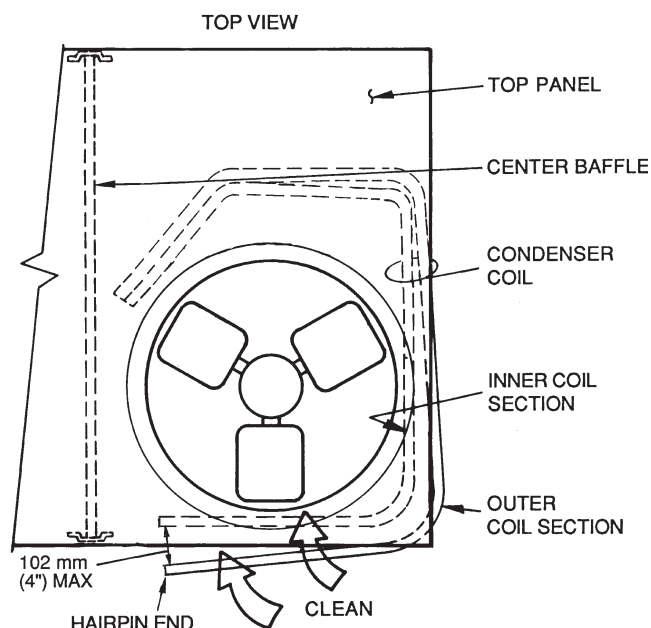

Fig. 14 — Separating Coil Sections
7. Remove the fasteners holding the coil sections together at the return end of the condenser coil. Carefully separate the outer coil section 3 to 4-in. from the inner coil section. See Fig. 14.